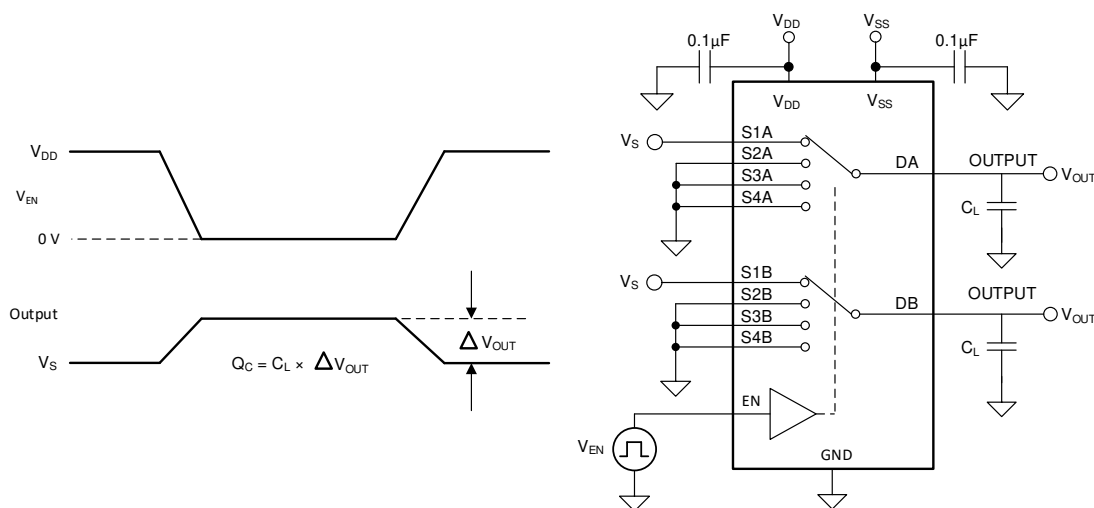

Figure 6-7. Charge-Injection Measurement Setup
The TMUX1109 has a transmission-gate topology. Any mismatch in capacitance between the NMOS and PMOS transistors results in a charge injected into the drain or source during the falling or rising edge of the gate signal. The amount of charge injected into the source or drain of the device is known as charge injection, and is denoted by the symbol  $Q_C$ . Figure 6-7 shows the setup used to measure charge injection from source (Sx) to drain (D).